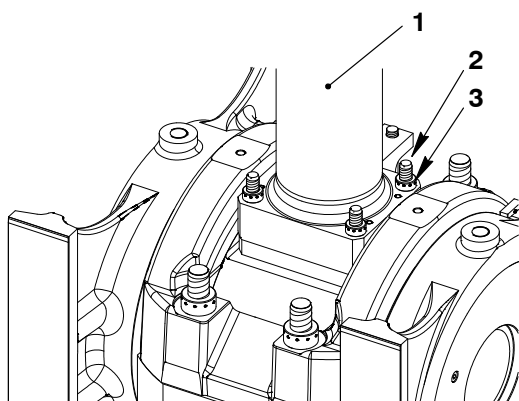
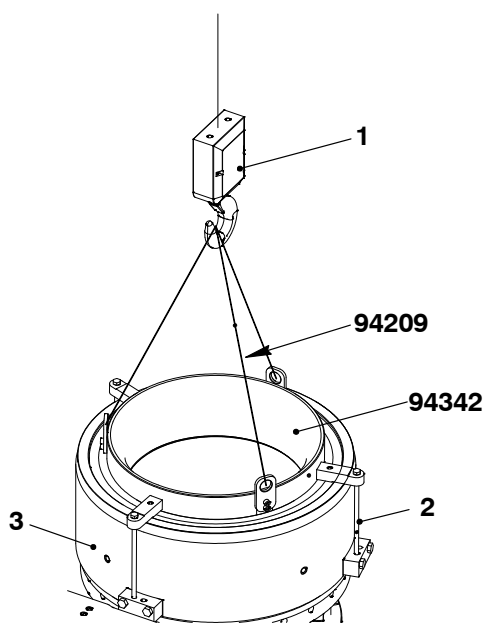
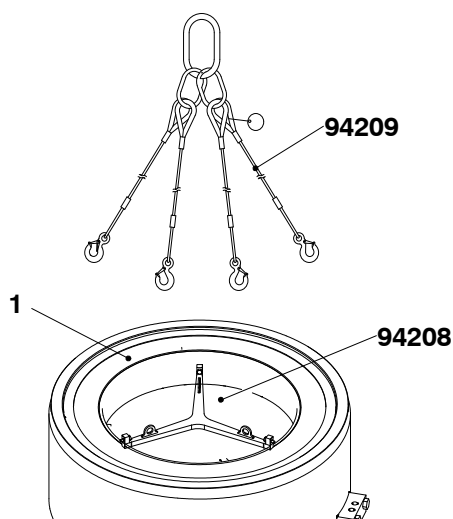

Fig. 15
Fig. 16
Fig. 17
- 39) Put oil on the four elastic studs (2, Fig. 15).
- 40) Attach the four round nuts (3) to the elastic studs (2).
- 41) Tighten the four round nuts (3), refer to 9403-4.
- 42) Attach the engine room crane to the tool (94209, Fig. 16).
- 43) Remove the three bolts (2).
- 44) Operate the engine room crane to remove the tool (94209) from the cylinder liner (3).
- 45) Make sure that the cylinder liner and the anti-polishing ring (1, Fig. 17) are clean and in a satisfactory condition.
- 46) Put oil on the surfaces of anti-polishing ring (1).
- 49) Operate the crane to install the anti-polishing ring (1) into the cylinder liner.